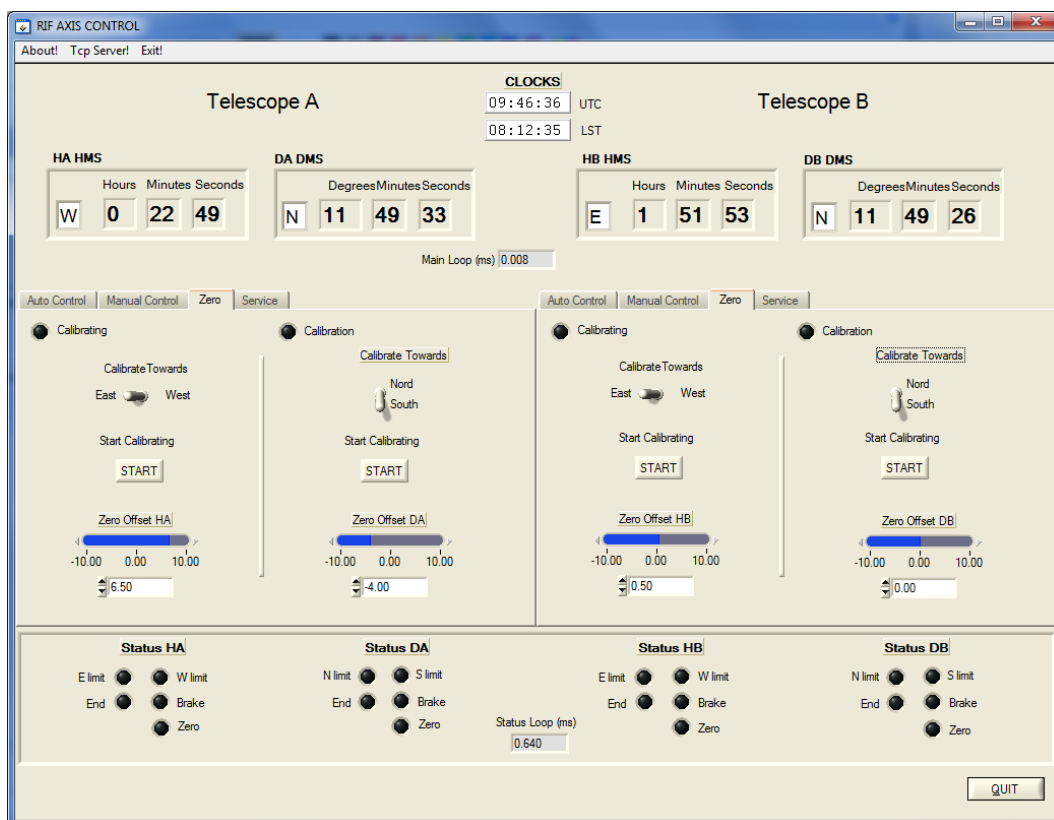

Figure 8: The Axis4 “Zero” tab.
- (a) In the “Zero” tab (shown in Figure 8) the values for “Zero Offset HA” and “Zero Offset DA” are set to zero for both dishes.